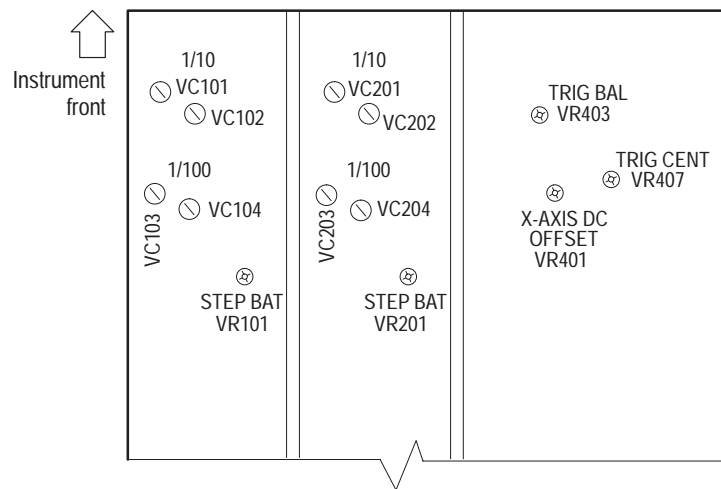

Figure 10: Main board (viewed from the instrument bottom)
3. Adjust VC102 (VC202) to obtain an optimum waveform symmetry with minimal overshoot. See Figure 10 for the adjustment locations.
5. Readjust the generator output to produce a waveform five divisions in amplitude. Adjust VC104 (VC204) to obtain an optimum waveform symmetry with minimal overshoot. See Figure 10 for the adjustment locations.
12. Adjust VC101 (VC201) to flatten the waveform. See Figure 10 for the adjustment locations.
15. Adjust VC103 (VC203) to flatten the waveform. See Figure 10 for the adjustment locations.